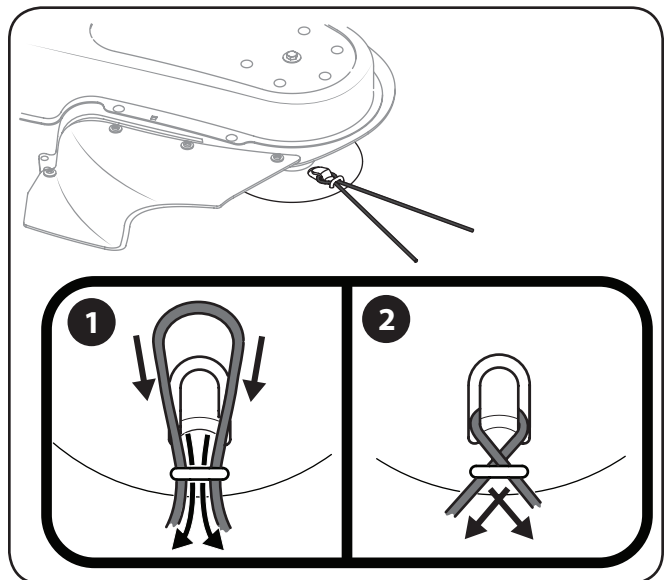

Figure 5-2
- Cross the line ends and pull each tightly to secure the trimmer line in place. See Figure 5-2.